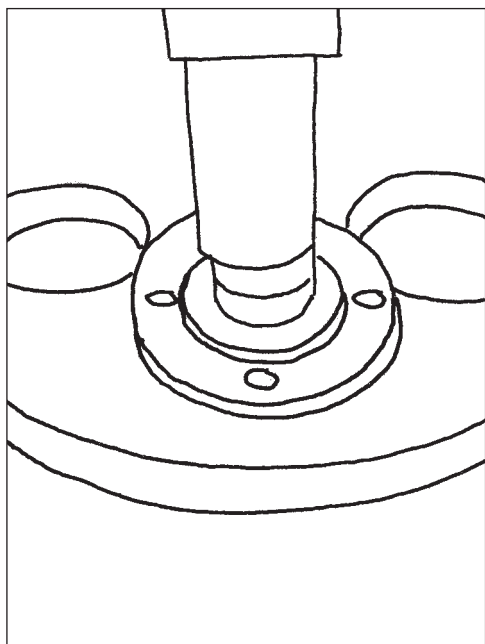

Figure 14
1. Using an appropriate size seal driver, install the oil seal in the bearing cap cover. Coat the outside diameter of the seal with a light coat of grease before installing. Make sure the lip of the seal faces inward. When properly installed, you will be able to see the garter spring of the seal (**Figure 14**).